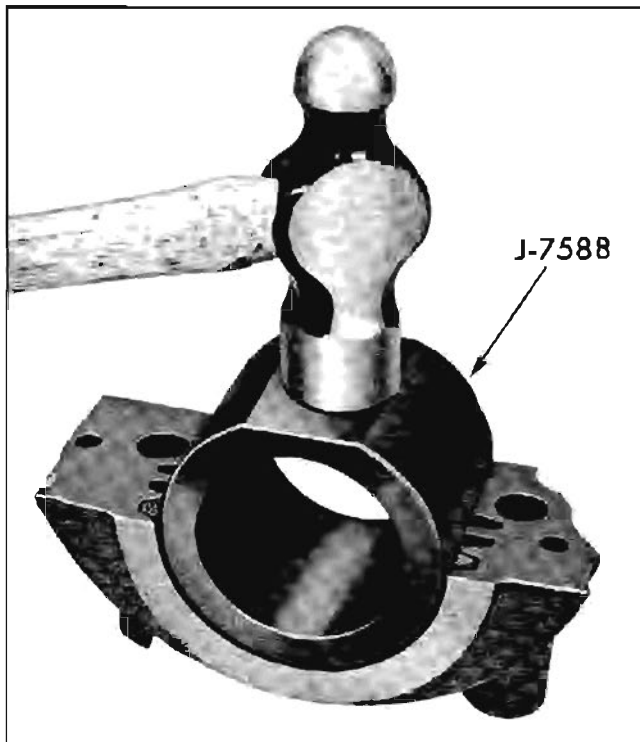

Fig. 6-48 Compressing Seal in Bearing Cap
a. First install seal in cap and compress seal using hammer and Seal Compressor J-7588 (Fig. 6-48).